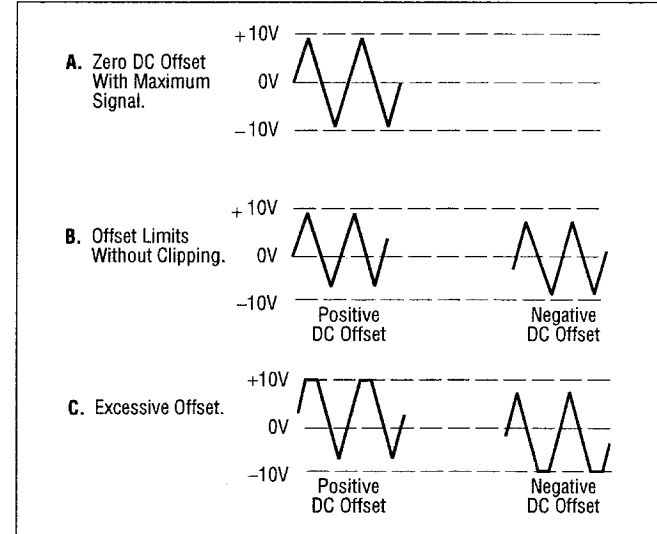

Figure 3. Use of DC OFFSET Control
6. Adjust the amplitude of the output as desired using the **OUTPUT LEVEL** control (4). Rotation of this control varies the amplitude from maximum to 20 db below maximum. An additional attenuation of -20db is available by pushing in the **-20dB** switch (11). The attenuation factors can be combined for a total of -40db. The maximum signal level is 10 V p-p (into 50 Ω).
7. A superimposed DC component can be added to the output signal by engaging the **DC OFFSET** switch (12) to enable operation of the **DC OFFSET** control (5). Rotation of this control adds a positive or negative DC component to the output signal. The DC component introduced is independent of the **OUTPUT LEVEL** control and can be varied by ± 10 volts open circuited or ± 5 volts into $50\ \Omega$. The DC Offset does not affect the **TTL/CMOS** output jack. The effect of DC OFFSET is shown in Fig. 3.
6. Remember that the output signal swing of the generator is limited to ± 10 volts open circuited or ± 5 volts into $50\ \Omega$, and applies to the combined peak-to-peak signal and DC offset. Clipping occurs slightly above these levels. Fig. 3 illustrates the various operating conditions encountered when using the DC offset. If the desired output signal is large or if a large DC offset is required, an oscilloscope should be used to make sure that the desired signal is obtained without undesirable clipping.